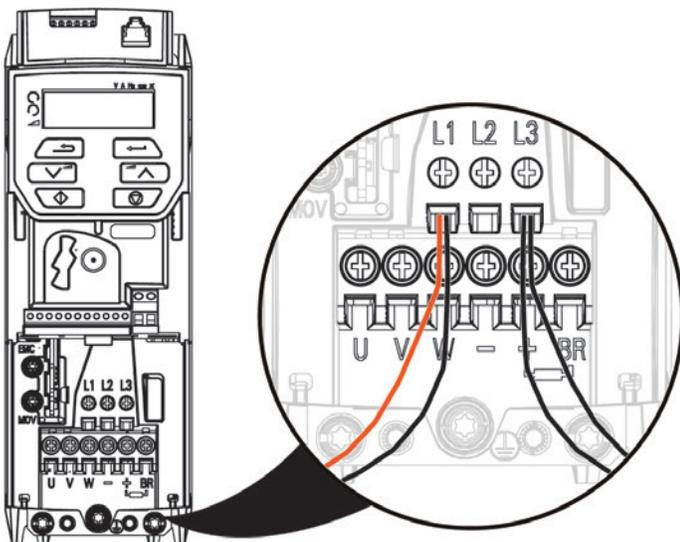

Figure 9. Connect Input Power and Transformer Wires to VFD
4. Connect black Input Power wires to terminals L1 and L3. Terminal L2 is only used if VFD is used in the 3Ø setting. See Figure 9.
5. Connect the Transformer wires to L1 and L3 as follows and shown in Figure 9 (SlideDriver and HydraSwing only).